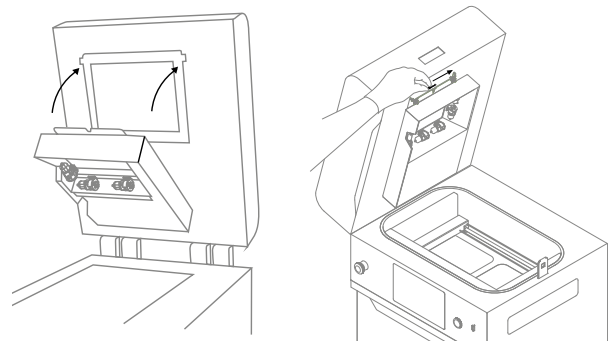

Fig. 12.52 Reinstall the heating module.
16. Lift the heating module (fig. 12.52).
17. Reinsert the heating module split pin (fig. 12.52).